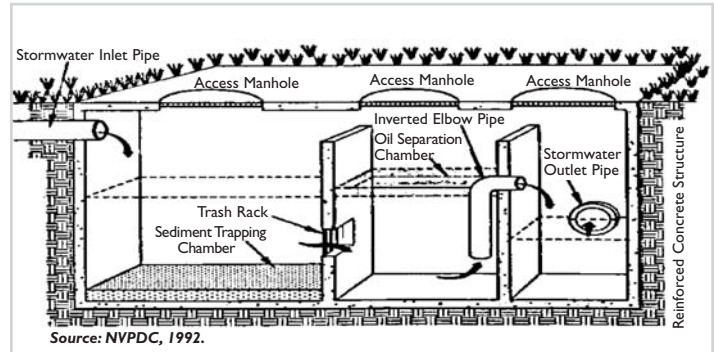

Figure 1 Oil and Grit Separator
- *Stormwater quantity impacts* - Under natural conditions, only about 10% of rainwater exists as runoff, with the remainder infiltrating soils or evaporating. In urban settings with more impervious area, about 55% of rainwater becomes stormwater runoff. The amount of runoff depends partially on the amount of impervious surface area. The greater the impervious area, the more it gives rise to a variety of concerns, including higher volume of runoff, greater stream and runoff velocity during storm events, increased peak discharges and reduced groundwater recharge. Porous pavement, illustrated in Figure 1, is a BMP example of quantity control as it allows more water infiltration.